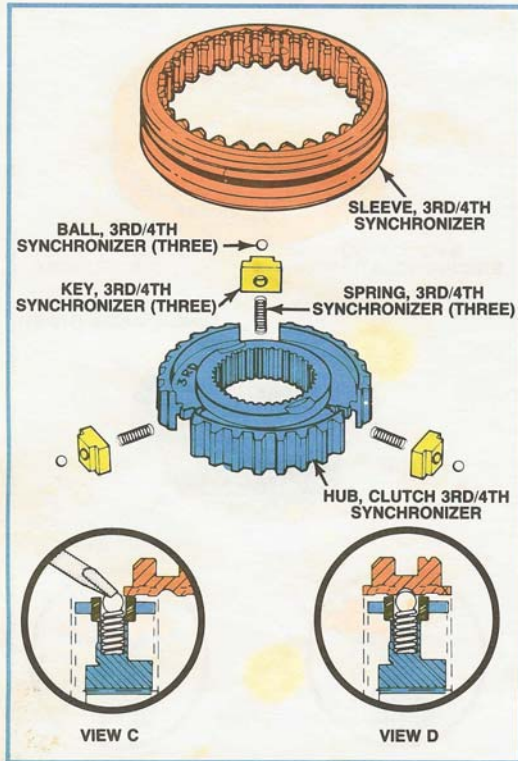

Figure 1-51, The 3-4 Synchronizer.
- 3rd and 4th speeds (Figure 1-51)